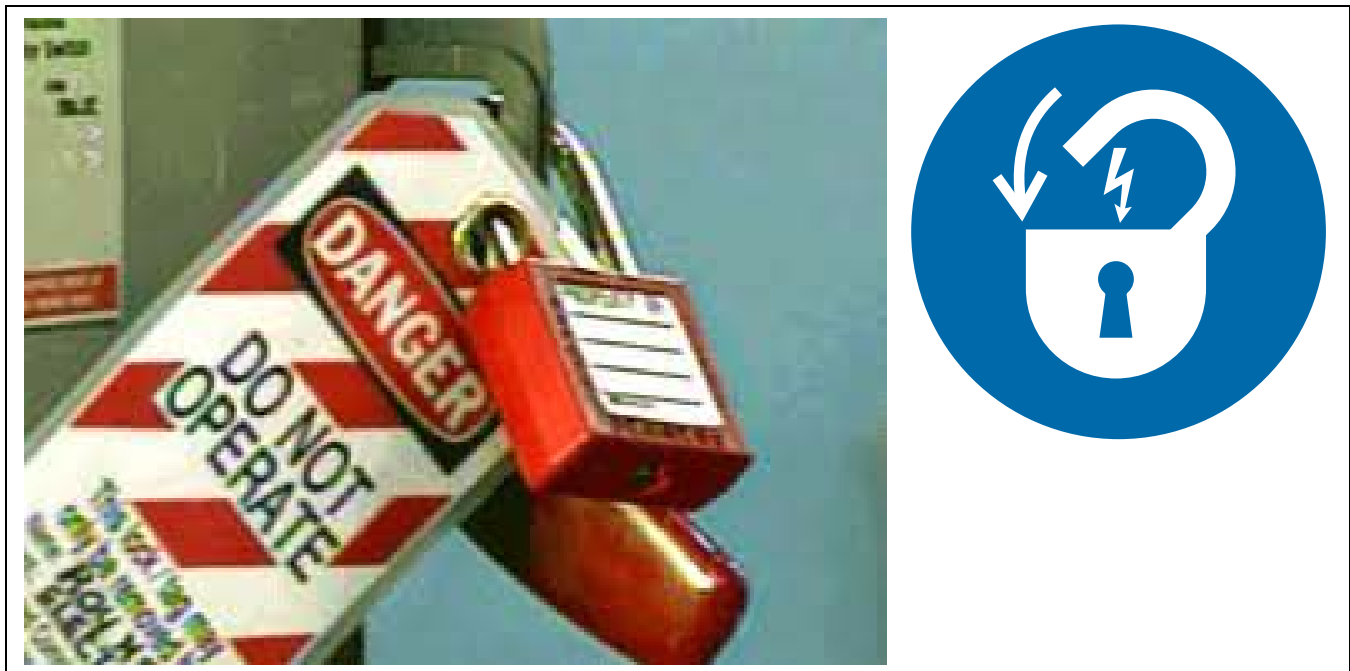

Figure 2A
6. Never enter the grain bin unless the power supply to the auger and all other equipment in the bin is OFF, TAGGED and LOCKED. (See Figure 2A.)